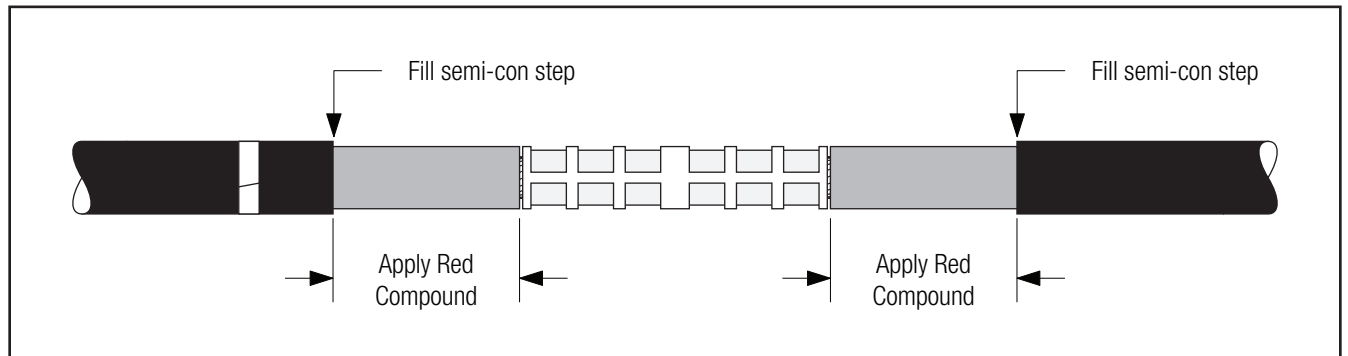

Figure 11
- 4.4 Apply red compound on cable insulations, making certain to fill in edge of cable semi-con. **Do not use silicone grease** (*Figure 11*).